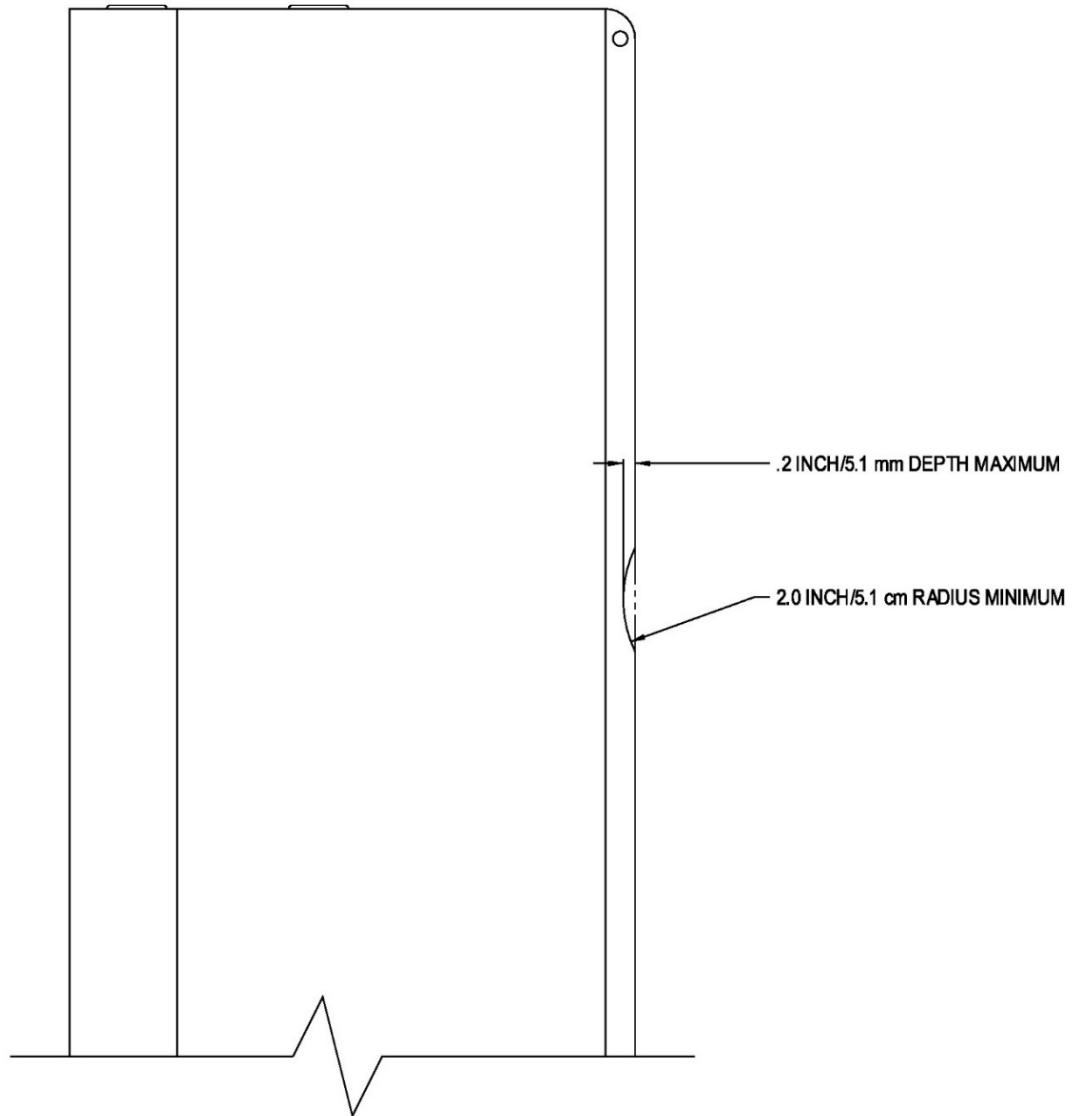

Figure 9-25. Main Rotor Blade Trailing Edge Repair Limits
- (1) Buff out all light scratches.
- (2) Polish out nicks, scratches, and sharp dents and blend the area to approximately .50"/13 mm around the damaged area.
- (3) Repair damage to the trailing edge in accordance with Figure 9-25.
- (4) Smooth dents that do not exceed the damage limits are acceptable and no repair is required.